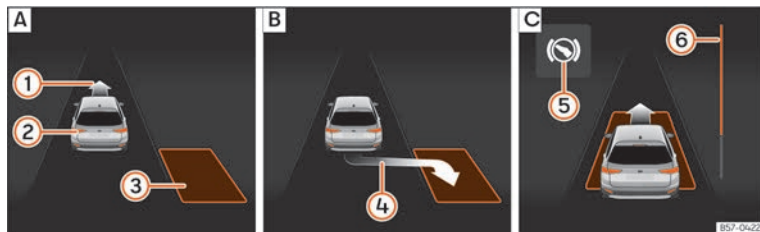
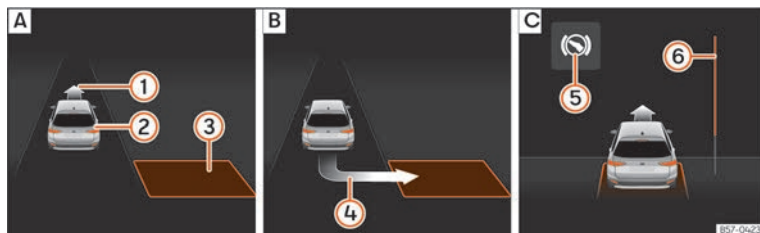

Fig. 199 On the instrument panel display: parallel parking. [A] Finding a parking space. [B] Parking position. [C] Manoeuvring.
Fig. 200 On the instrument panel display: angle parking. [A] Finding a parking space. [B] Parking position. [C] Manoeuvring.
- Look at the display on the instrument panel to see if the space has been detected as “appropriate” and if the correct position for parking has been reached »» Fig. 199 [B] or »» Fig. 200 [B]. The space is considered
- Reverse until the continuous ParkPilot signal sounds; **OR:** reverse until the indication to move forward appears on the instrument panel display » » Fig. 199 [C] or » » Fig. 200 [C]; **OR:** reverse until the **Park Assist finished** message appears on the instrument panel display. The progress bar (6) indicates the distance to cover » » page 279.
- Press the brake pedal until the parking assist system completes the steering wheel turns; **OR:** until the symbol (S) goes out on the instrument panel screen.
- Move forward until the continuous ParkPilot signal sounds; **OR:** move forward until the reverse indication appears on the instrument panel display. The Park Assist system steers the vehicle forward and back until it centres it in the space » » Fig. 199 [C] or » » Fig. 200 [C].
» » Fig. 199 (6) and » » Fig. 200 (6) on the screen of the instrument panel displays the relative distance to be covered. The greater the distance, the fuller the progress bar. When driving forward, the content of the progress bar decreases upwards, and when reversing, it decreases downwards.